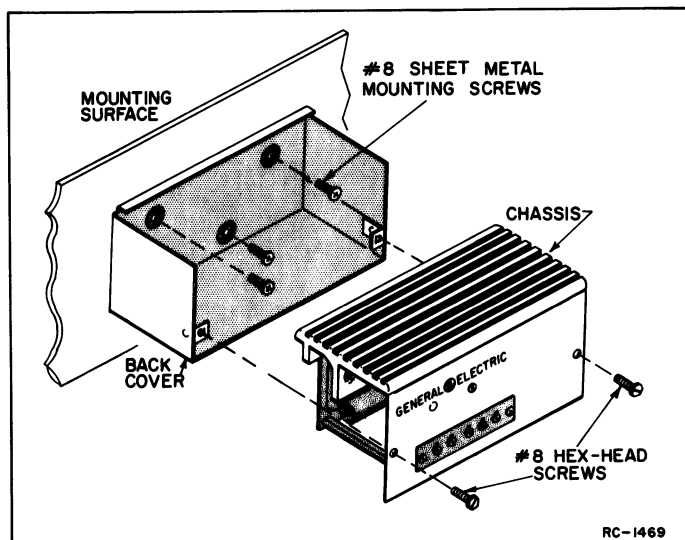

Figure 1 - Mounting the Converter
1. Remove the two hex-head screws in the front panel and slide off the back cover (Figure 1).